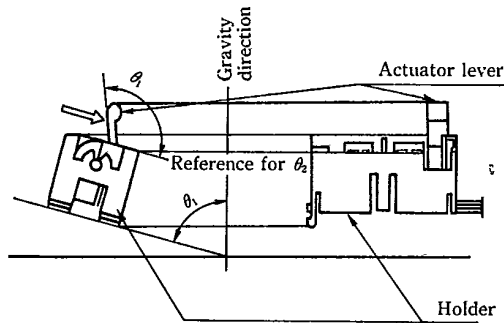

Fig. 1 Output Current vs. Ambient Temperature
*1 Fig. 1 shows output current derating curve.